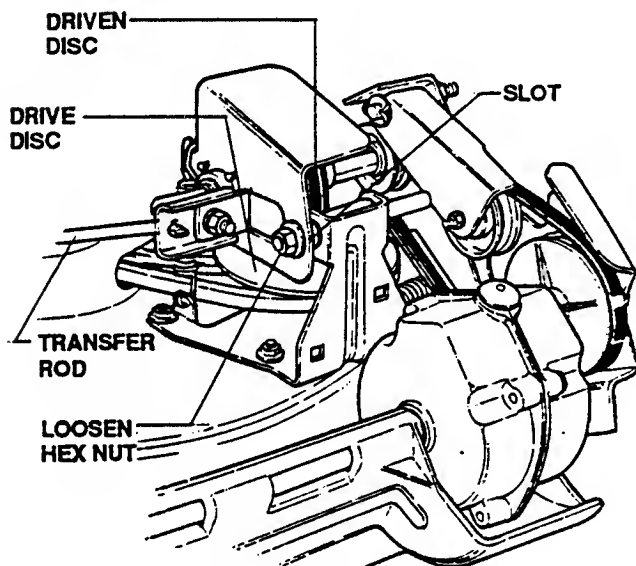

FIGURE 3.14a
5. To adjust tracking, loosen hex nut shown in Figure 3.14a and move driven disc forward or rearward until the rubber ring contacts the drive disc surface 1/8" in front of the imaginary reference centerline. Retighten hex nut.